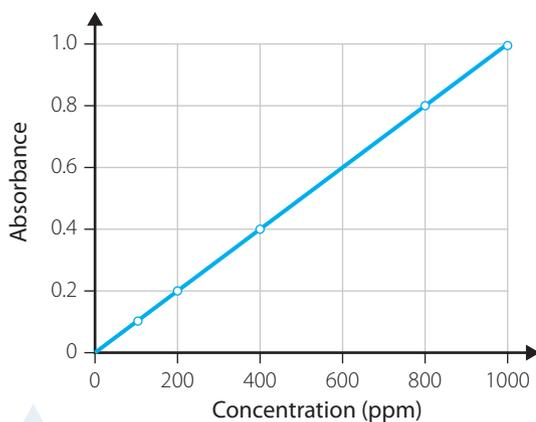

FIGURE 14.16 A typical calibration curve for copper(II) tetrammine ions at 610 nm
- 6 A solution of copper(II) tetrammine, $[\text{Cu}(\text{NH}_3)_4(\text{H}_2\text{O})_2]^{2+}$ was analysed using colourimetry to determine its concentration. It was diluted by a factor of 100 and found to have an absorbance reading of 0.6.
- Use Figure 14.16 to determine the concentration of the diluted sample in ppm.